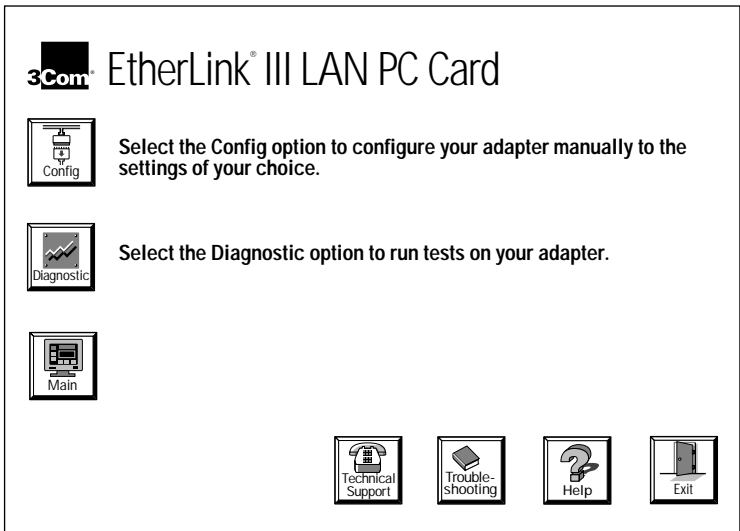

Figure 6-2 Tools Screen
The Tools screen appears, as shown in Figure 6-2.
- 3 Click *Diagnostic* on both PCs, shown in Figure 6-2, to start the diagnostic program.**